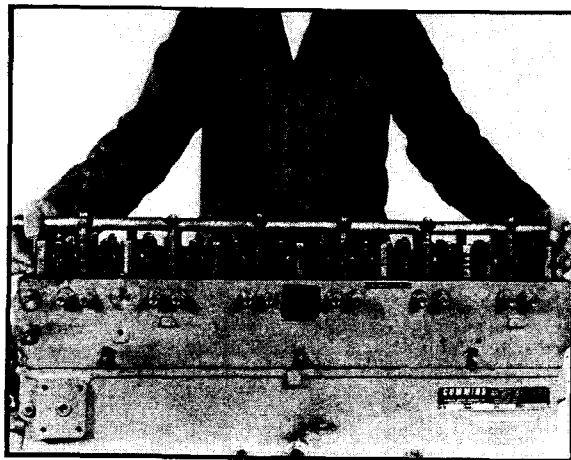

Fig. 12-52. Installing rocker lever assembly
2. Lift the rocker lever assembly to the cylinder head using the bar arrangement to hold the rocker levers in place as shown in Fig. 12-52.